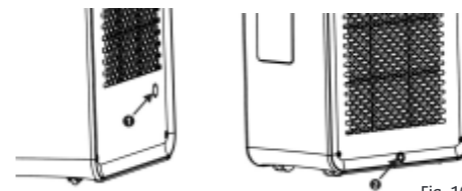

Fig. 10
1. When the unit is in cooling mode, it is not necessary to install the condensate drainage pipe since condensate evaporates automatically. Make sure that when the unit is operating, the rubber plug of the drainage hose is securely fixed (see Fig. 10).
2. In heating mode, remove the rubber plug (2) of the drainage hose (Fig. 10), install the respective drainage hose to improve heating efficiency.
3. In dehumidification mode, remove the rubber plug (2) of the drainage hose, install the respective drainage hose. Disconnect the air outlet hose, connect the drainage hose to the drainage hole and drain water from the unit to ensure maximum dehumidification efficiency.